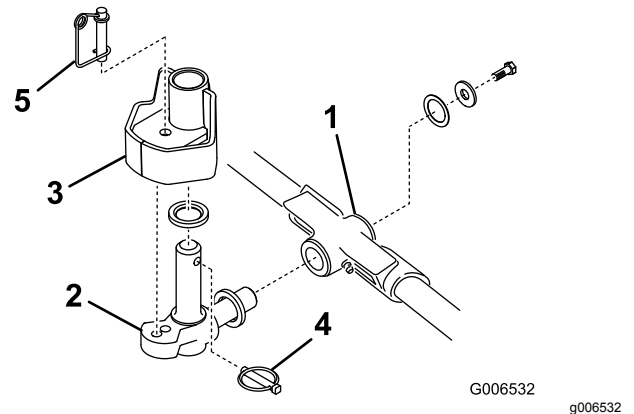

Figure 12
1. Insert a thrust washer onto the horizontal shaft of the pivot knuckle as shown in Figure 12.
2. Insert the horizontal shaft of the pivot knuckle into the mounting tube of the carrier frame (Figure 12).
3. Secure pivot knuckle to carrier frame with a thrust washer, a flat washer, and a flange-head cap screw (Figure 12).
4. Insert a thrust washer onto the vertical shaft of the pivot knuckle (Figure 12).
5. If removed, insert the vertical shaft of the pivot knuckle into the lift-arm pivot hub (Figure 12).
7. Insert the lynch pin into the cross hole on the pivot-knuckle shaft (Figure 12).
Note: If a fixed cutting unit position is required, insert the steering locking pin into the pivot knuckle mounting hole (Figure 12).
13. Hook the spring wire around the bottom of the steering locking pin (Figure 12).